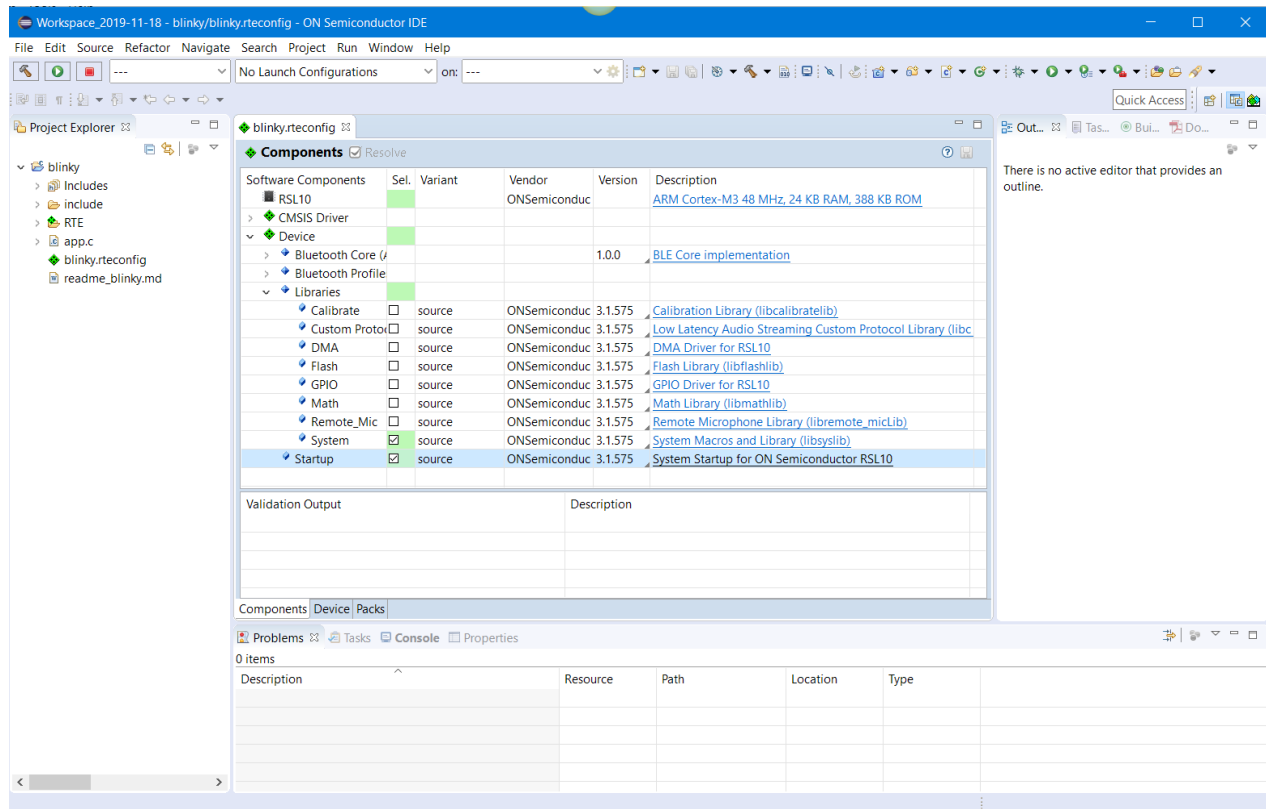

Figure 6. RTE Configuration for the Blinky Example Project in the onsemi IDE
3. The C/C++ perspective opens and displays your newly copied project. In the Project Explorer panel, you can expand your project folder and explore the files inside your project. On the right side, the *blinky.rteconfig* file displays software components. If you expand **Device > Libraries**, you can see the **System library** (*libsyslib*) and the **Startup** (*libcmsis*) components selected for *blinky* (see the figure "RTE Configuration for the Blinky Example Project in the onsemi IDE" (Figure 6)).